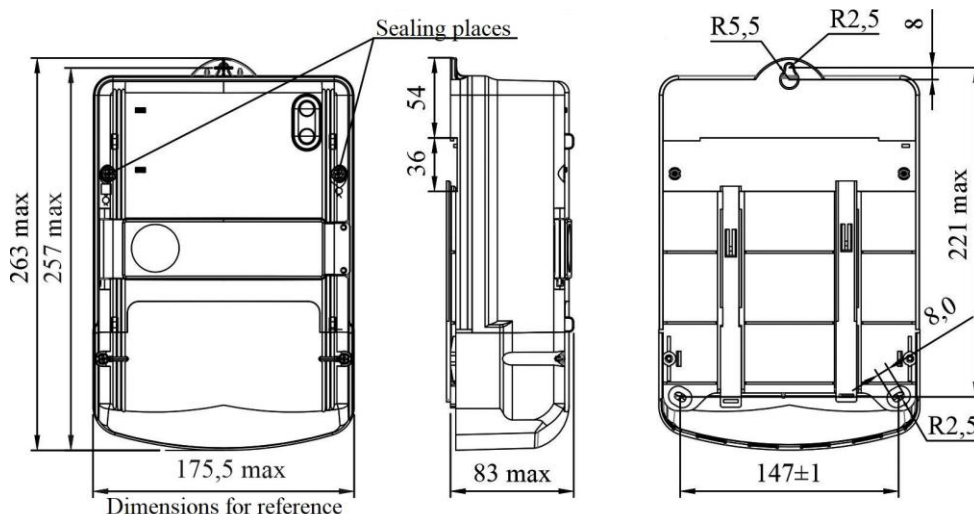

Figure 1. Overall and installation dimensions
6.3. The overall and installation dimensions of the meter are shown in Figure 1.